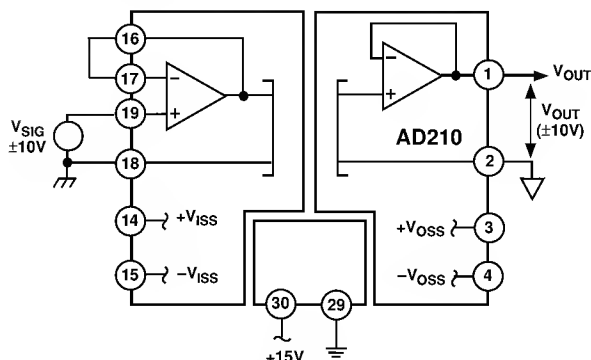

Figure 2. Basic Unity Gain Configuration
**Input Configurations:** The basic unity gain configuration for signals up to  $\pm 10$  V is shown in Figure 2. Additional input amplifier variations are shown in the following figures. For smaller signal levels Figure 3 shows how to obtain gain while maintaining a very high input impedance.
The high input impedance of the circuits in Figures 2 and 3 can be maintained in an inverting application. Since the AD210 is a three-port isolator, either the input leads or the output leads may be interchanged to create the signal inversion.